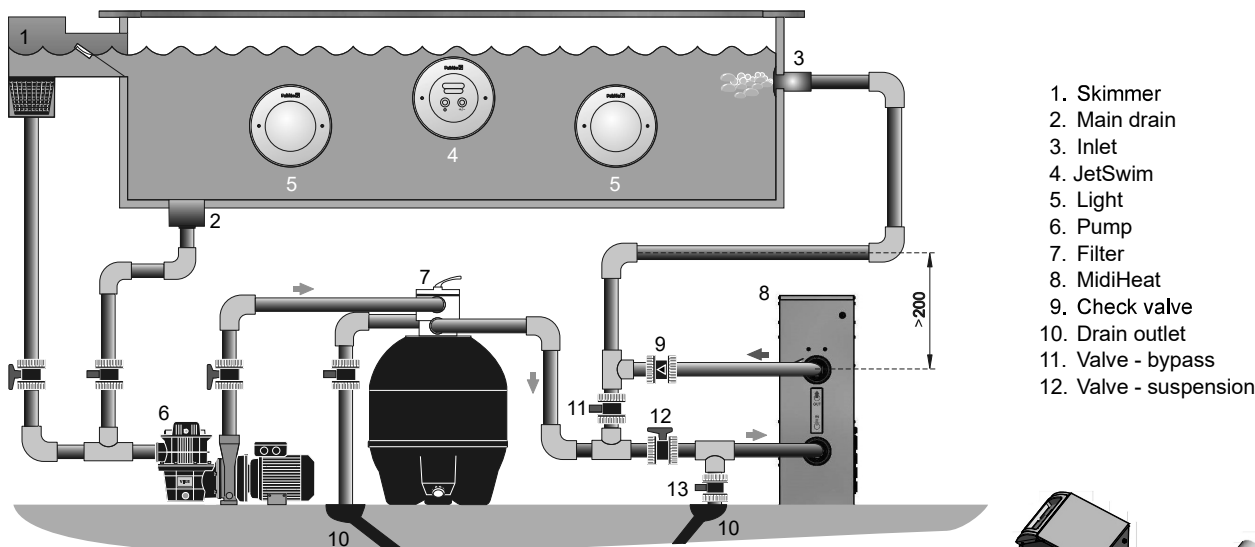

Fig. 2
2. Close shut off valve (pos.12, fig. 2).
3. Open shut off valve (pos.13, fig. 2).